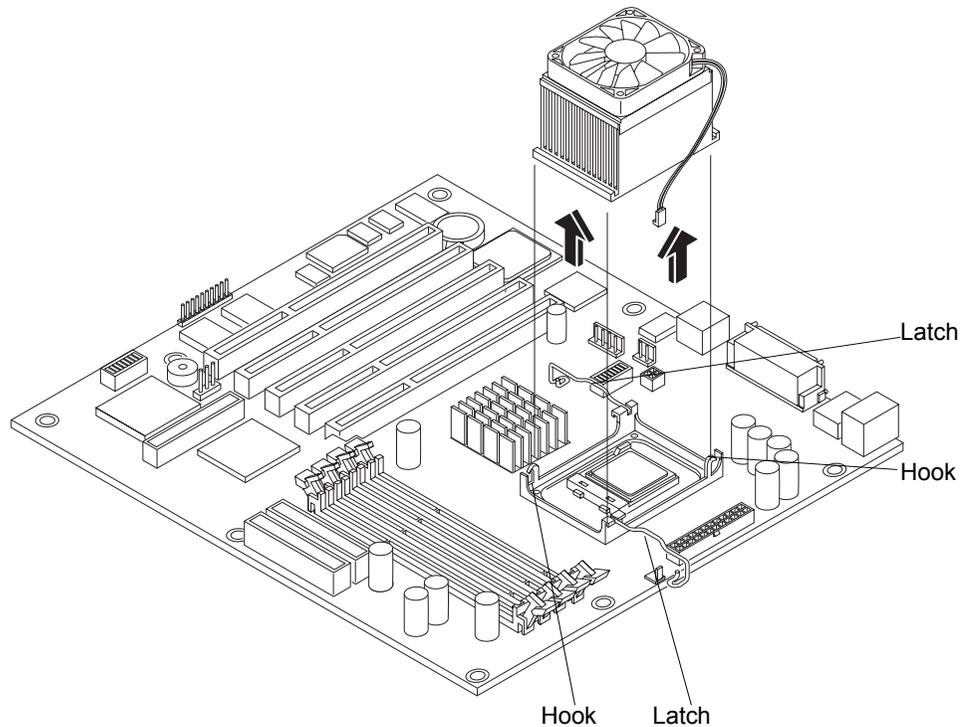

Figure 3-15. Removing Heat Sink and Cooling Fan
6. Open the heat sink release latches by pressing down on the latches and unhooking them from the heat sink bracket. Then, remove the heat sink by lifting it. See Figure 3-15.